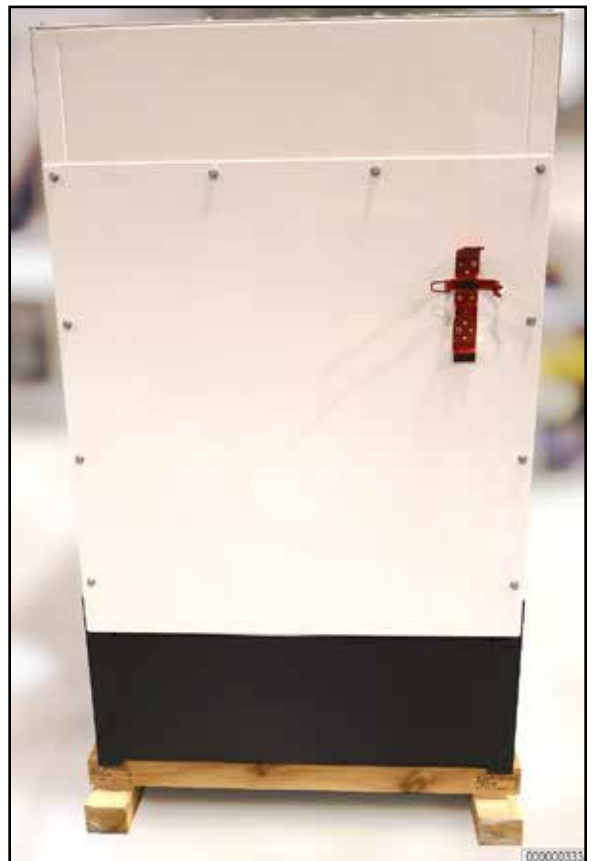

Figure 9
- **Step 16:** Reinstall Rear Enclosure Frame Cover Panel; secure in place using a 13mm socket and ratchet or driver and ten (10) previously removed bolts. Snug bolts only (Figure 9)